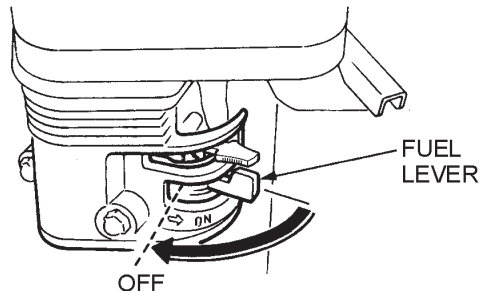

Figure 24. Fuel Valve Lever (OFF)
3. Place the fuel shut-off lever (Figure 24) in the **OFF** position.